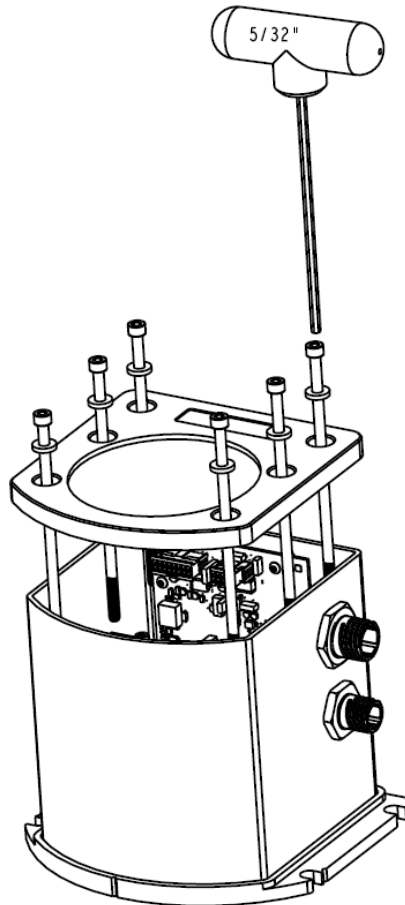

Figure 32: Bolts and Allan Key
1. Remove the top cover's six bolts using an allan key, see *Figure 32*:
Use an allen key to align the long bolts with the threaded holes in the base, see *Figure 32* on *page 141*. Apply threadlock to threads. Finger tighten the 6 bolts and torque them in a cross pattern to 12 in-lbs. The fully assembled IMU enclosure is shown in *Figure 37* below.